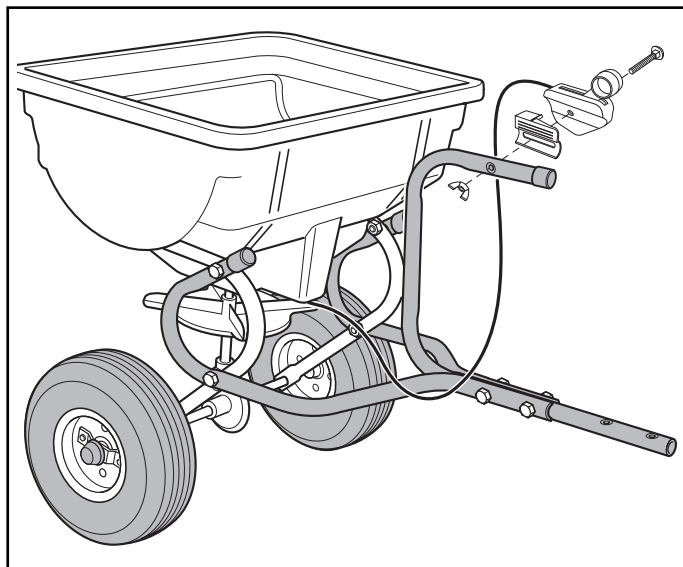

FIGURE 7
- Assemble the Control Cable to the Hitch Control Tube using the carriage bolt and nylon wing nut. **Tighten.** See figure 7.